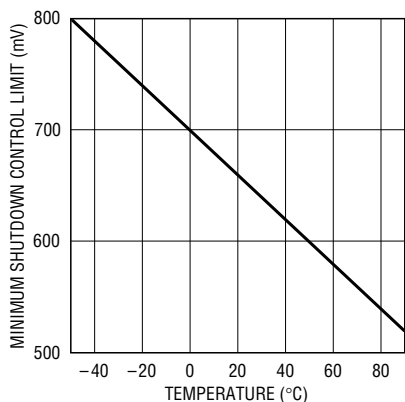

Figure 4. Minimum Shutdown Control Limit vs Temperature
When shutting down the LT1680, the RUN/SHDN pin voltage must remain between the shutdown threshold (~1.13V) and a minimum shutdown control limit voltage (see Figure 4) for a least 25 μ s. If a digital input or fast moving clamp is used, this can be achieved by forcing a shutdown control voltage above the minimum limit or by using a simple integrator to increase the fall time of the input signal. A single pole integrator stage must have a $\tau \geq (7)(10^{-5})$.